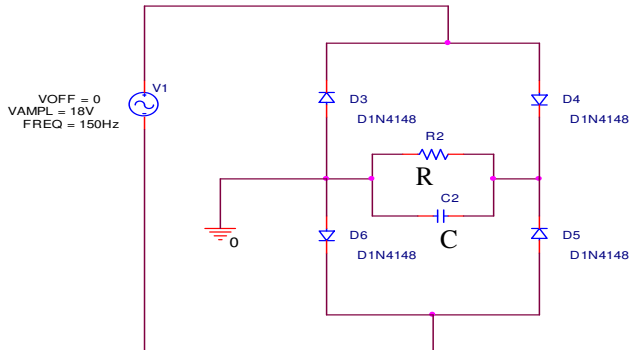

Figure 2.3. Full-Wave Diode Bridge Rectifier
2.3. Design problem: Referring to Figure 2.3, this input signal needs to be converted to a rectified+filtered signal, with ripples amplitude of less than 1.2V. For that purpose, a full-wave rectifier consisting of a diode bridge and filter is used. How large should R and C be to meet the spec of ripples amplitude of less than 1.2V peak-to-peak? Show all calculations and design formulas. (Don't use capacitor values larger than 250uF, or resistor values larger than 100kΩ). Also be aware that a too large value for R may cause the diode's current to be very small and it may degrade the diode's performance). For this part of the homework, you will need to refer to the RC design formula, given in Unit 13. Demonstrate that your design is successful, by measuring the ripples peak-to-peak with cursors. Use Transient with a run time of 5ms.